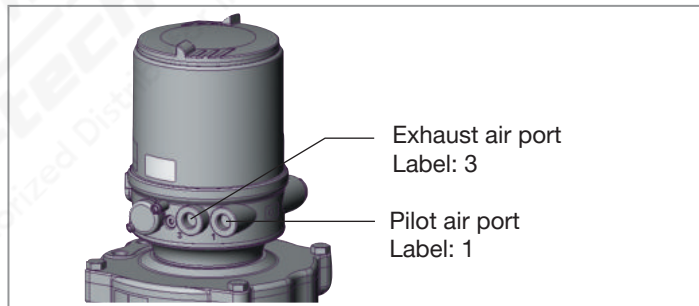

Fig. 14: Pneumatic connection Type 8686
- Connect the control medium to the pilot air port (1) (6 – 7 bar; instrument air, free of oil, water and dust).
- Mount the exhaust air line or a silencer on the exhaust air port (3) (see “Fig. 14: Pneumatic connection Type 8686”).